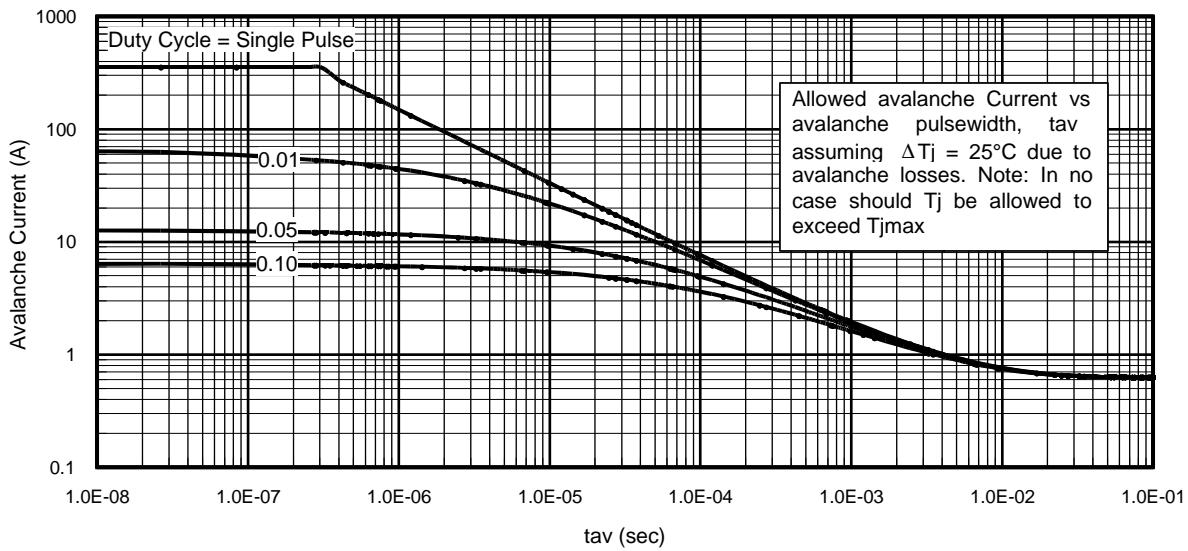

Fig 15. Typical Avalanche Current Vs.Pulsewidth
**Notes on Repetitive Avalanche Curves , Figures 15, 16:
7. ΔT = Allowable rise in junction temperature, not to exceed $T_{j\max}$ (assumed as 25°C in Figure 15, 16).